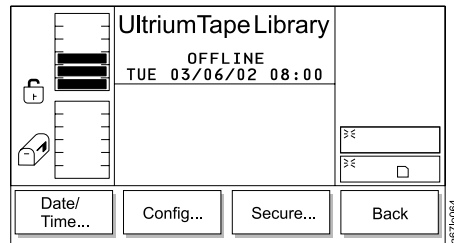

Figure 237. Utils Submenu
3. Press the button below the **Utils** softkey. The Utils Dialog displays (see Figure 237).